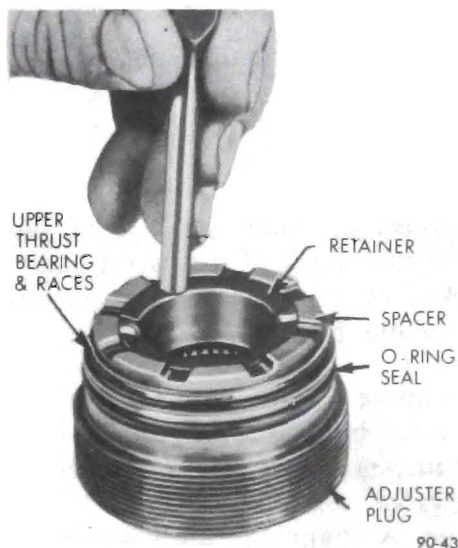

Figure 90-53 Installing Upper Thrust Bearing Retainer
3. Lubricate new adjuster plug "O" ring seal with petroleum jelly and install on adjuster plug. Assemble large O.D. thrust bearing race with internal flange up on adjuster plug, then thrust bearing, smaller thrust bearing race and thrust bearing spacer on adjuster plug. Install new thrust bearing retainer into needle bearing bore using punch, being careful not to damage spacer. See Figure 90-53. Radial location of dimples on retainer is not important. Thrust bearing assembly and spacer must be free to rotate and retainer must be completely bezowsurface of spacer.